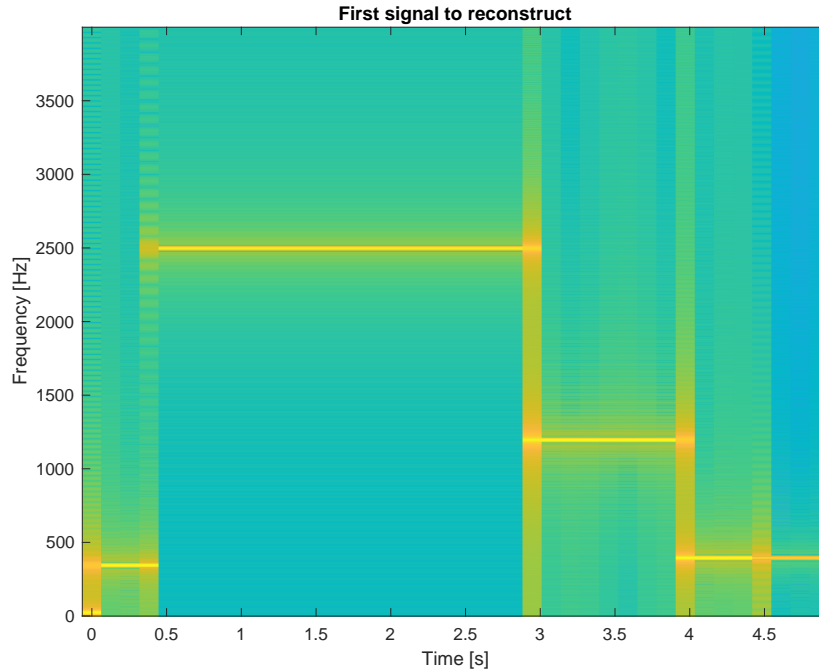

Figure 3.3: T/F grid of the signal to synthesize
1. Propose an algorithm that is able to construct a similar signal as the one proposed in Figure 3.3. You have to first analyze the image to extract the core characteristics of the signal and then inject these characteristics into a script `generate_synth_sig.m`. You can also load the Matlab figure to better zoom if you want. Remember that the image corresponds to a T/F grid and the associated sine wave has the form  $\sin(2\pi ft)$  where  $f$  is the sine frequency and  $t$  the time axis.